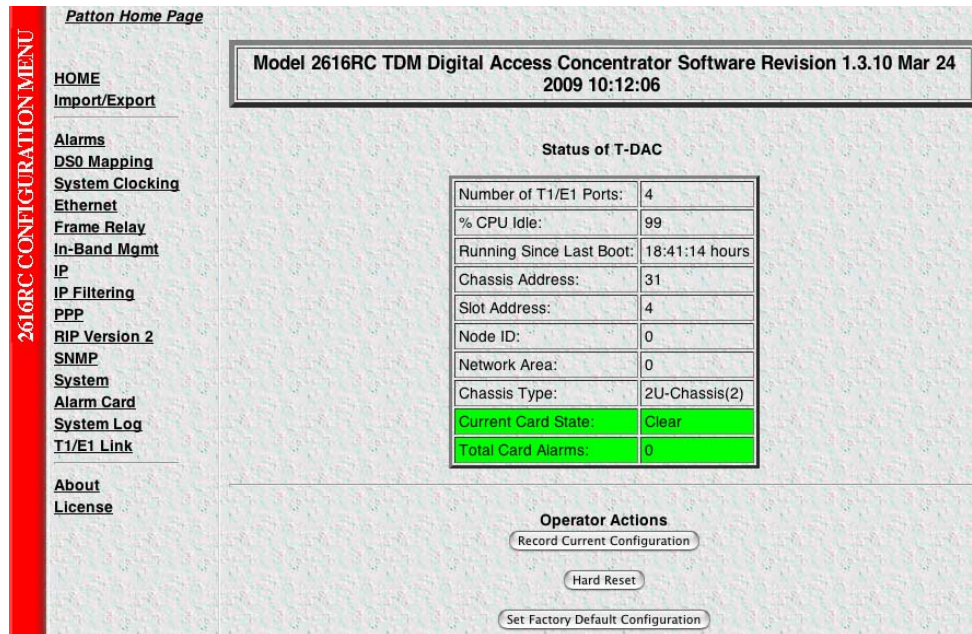

Figure 50. 2616RC Configuration Menu home page
1. On the Configuration Menu click the Select *HOME* hyperlink to open the *2616RC Configuration Menu* home page (figure 50).
2. Click the **Record Current Configuration** button (see figure 50).